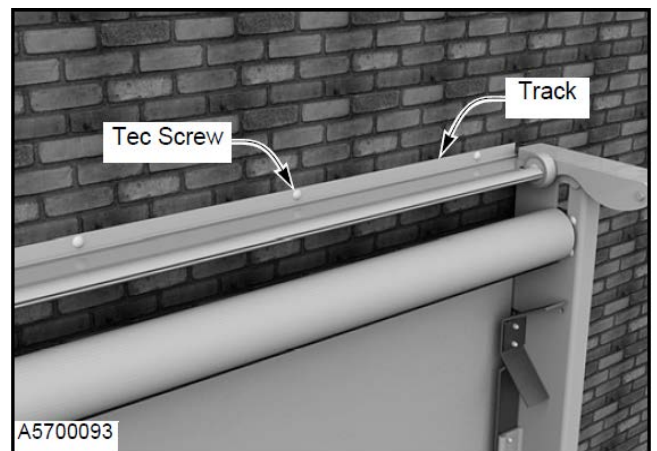

Figure 27
4. Mount track to wall. *NOTE: Hardware is NOT provided choose hardware appropriate for your installation.* (See Figure 27)